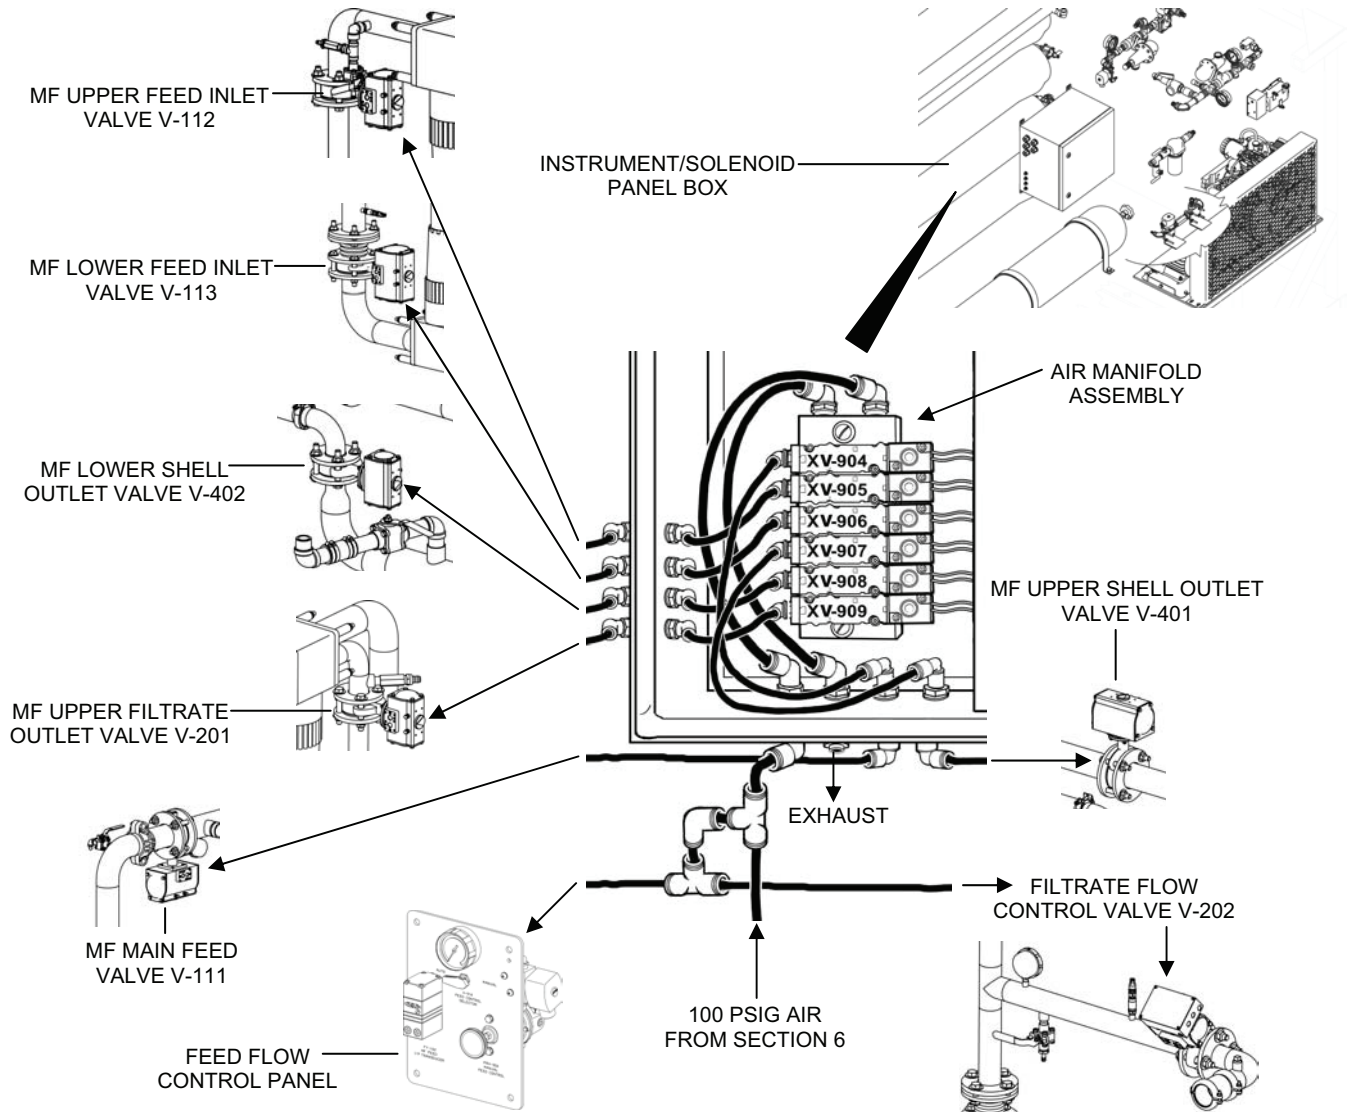

Figure 9. Air Manifold Assembly Air Tube Connection Arrangement.
- b. Connect the 8 tubes to the top and left side of the new manifold according to the connection tags (see Figure 9).